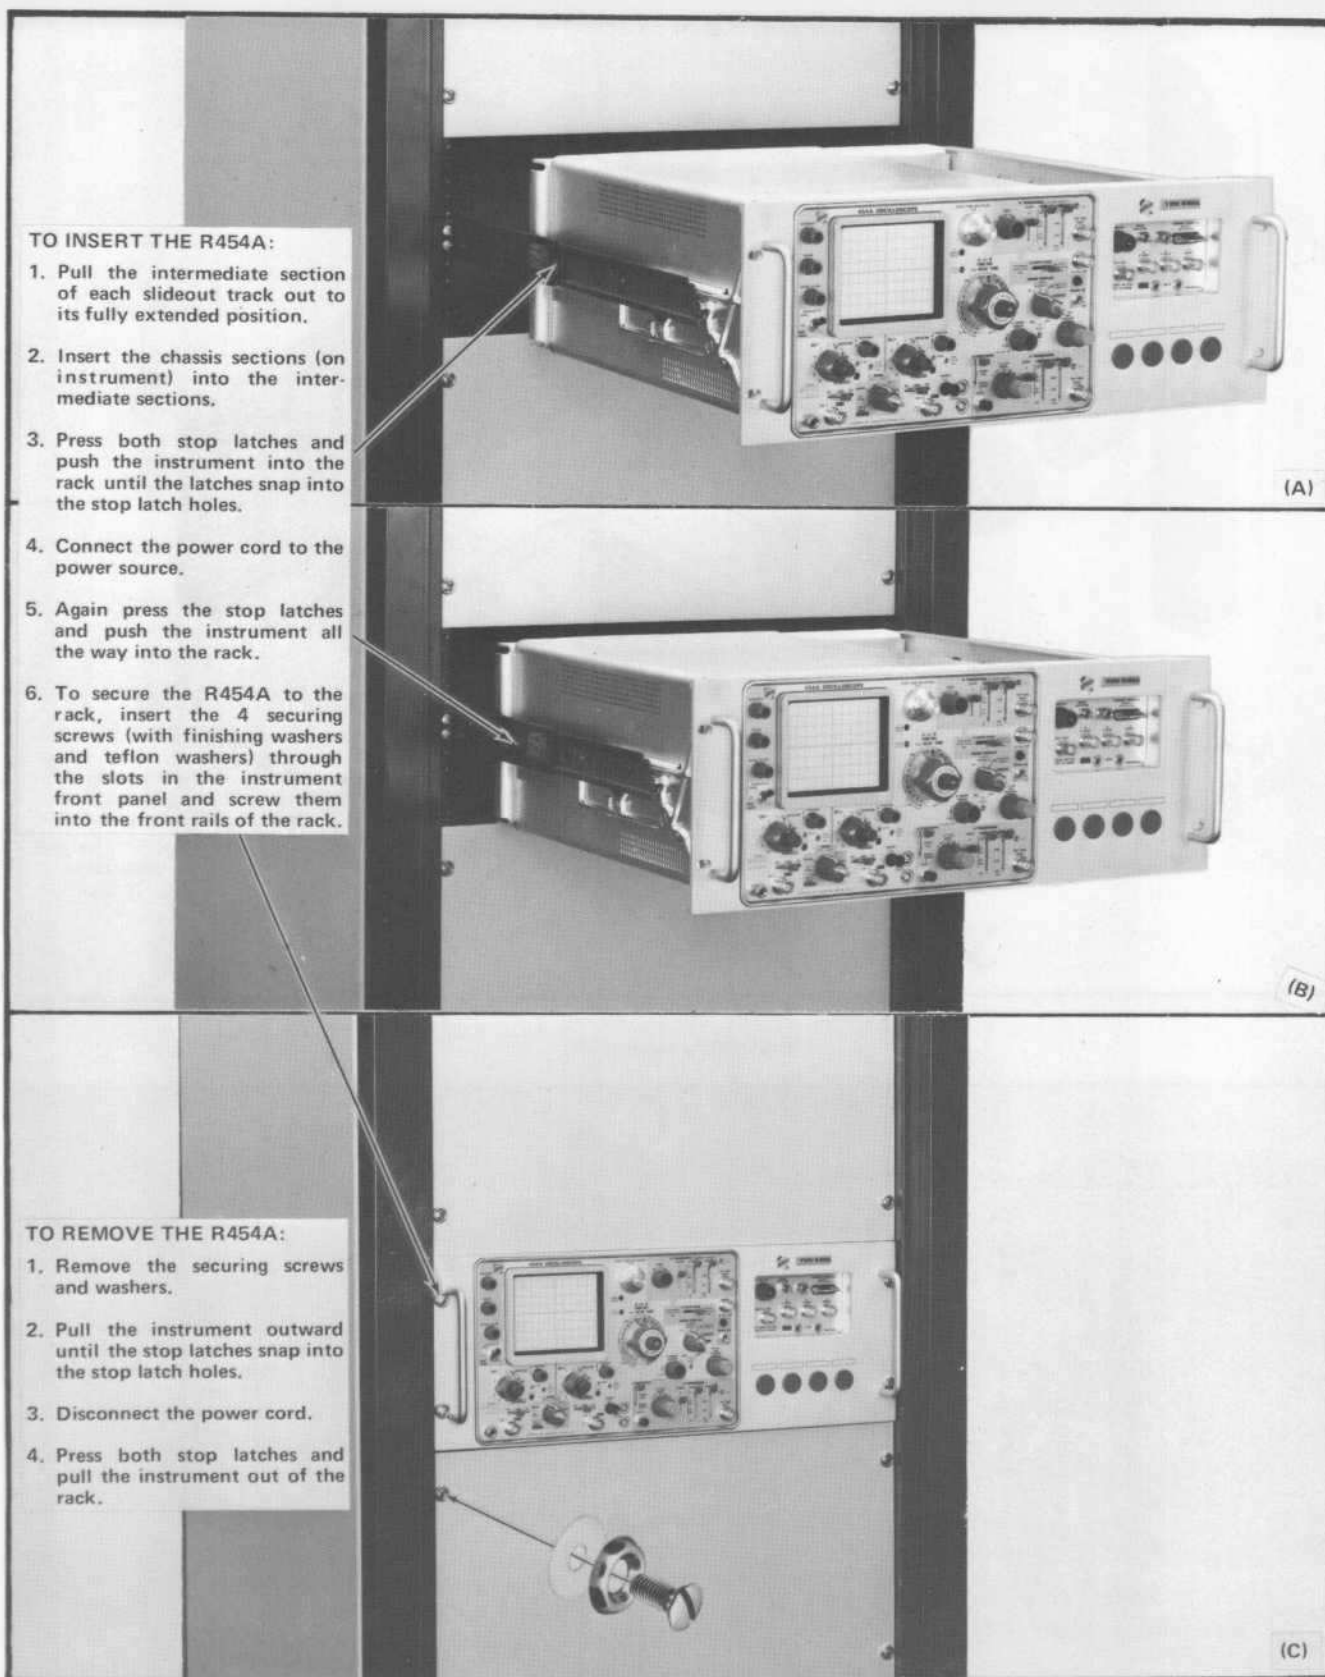

Fig. 6-9. Procedure for inserting or removing the instrument after the slideout tracks have been installed.
6. Refer to Fig. 6-9 to insert the instrument into the rack. Do not connect the power cord or install the securing screws until all adjustments have been made.
the instructions given in Fig. 6-9. No further adjustments are required under normal conditions.